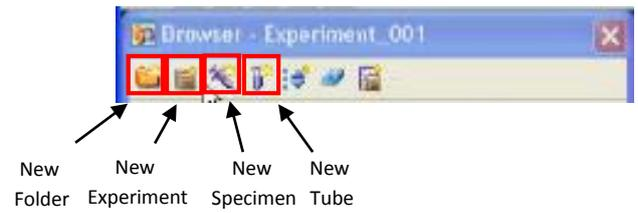

Figure B1 Browser toolbar
5. Use the Browser toolbar to add Specimen and Tube elements to your experiment (Fig. B1).
- c. Delete any unnecessary parameter by clicking the point on the left of the parameter's name and then clicking delete (Fig. B1).
11. Adjust voltages on all parameters by using the Parameters tab in the Cytometer window or the Cytometer Settings section in the Inspector (Fig. B1).